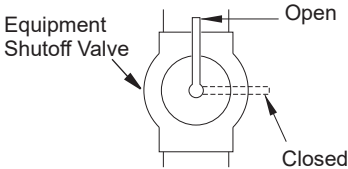

Figure 13 - Equipment Shutoff Valve
1. Close equipment shutoff valve (see Figure 13).
1. Open equipment shutoff valve (see Figure 13, page 14).